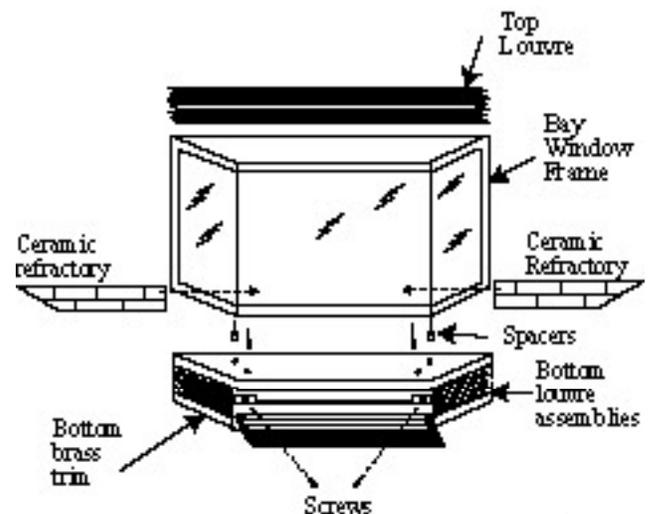

Fig. 45
4. Place the 2 pieces of ceramic refractory along the base of the bay window, Fig. 45